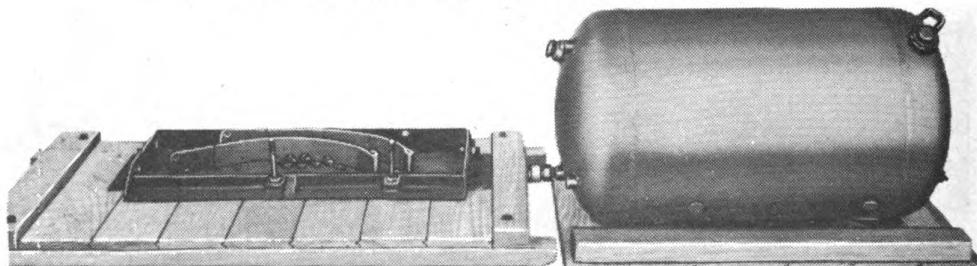

Fig. 13. Sponson fuel group disassembled and ready for installation.
- (17) Remove the four nuts, bolts, and lock washers which connect back fuel container straps to baseplate and lift off back fuel container straps (fig. 13).
- (18) Remove the two bolts at each end of base bracket. Lift baseplate from bottom of packing box.